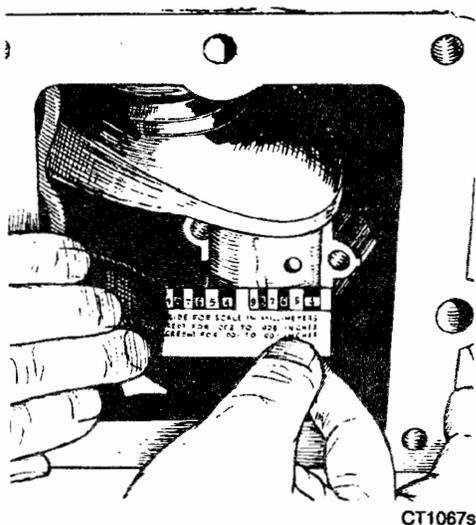

FIGURE 9-29. MEASURING BEARING CLEARANCE
4. Remove the bearing cap and leave the flattened Plasti-gage on the part to which it adheres. Compare the widest point of the flattened Plasti-gage with the graduations on the envelope (see Figure 9-29) to determine the bearing clearance.